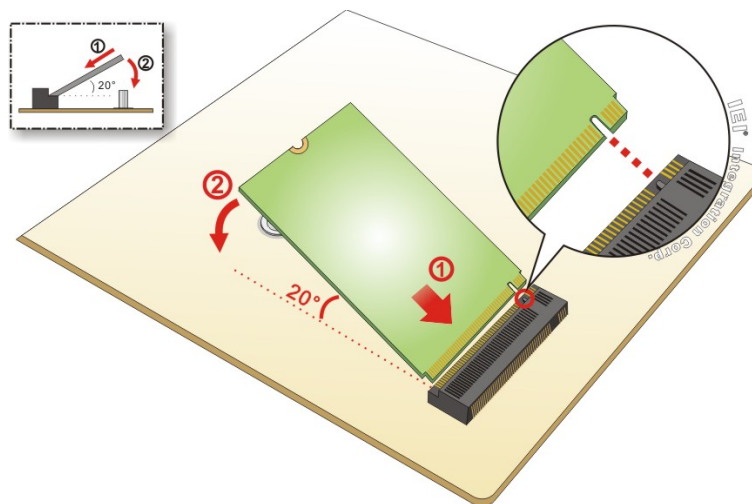

Figure 3-12: Inserting the M.2 Module into the Slot at an Angle
Step 3: Line up the notch on the module with the notch on the slot. Slide the M.2 module into the socket at an angle of about 20° (**Figure 3-12**).